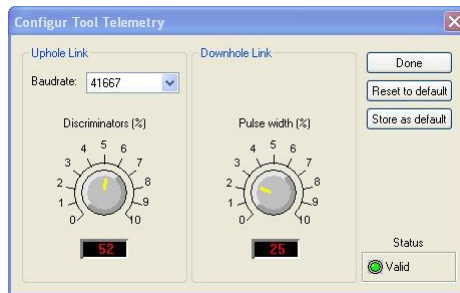
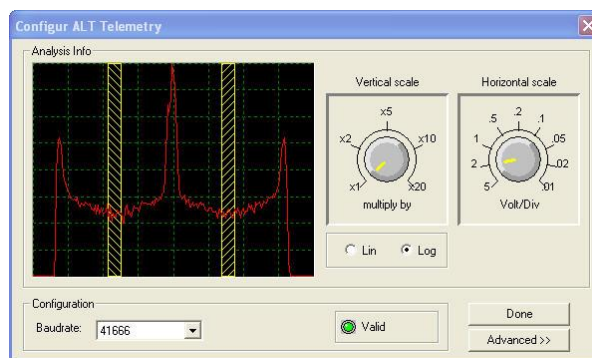

Figure 5-4 Tool communication settings - ALTLog
Figure 5-5 Tool communication settings - Matrix
4. In the **Communication** panel, select **Settings**. Check **baud rate** is set to **41666** and **communication status** is **valid** (Figure 5-4 or Figure 5-5).